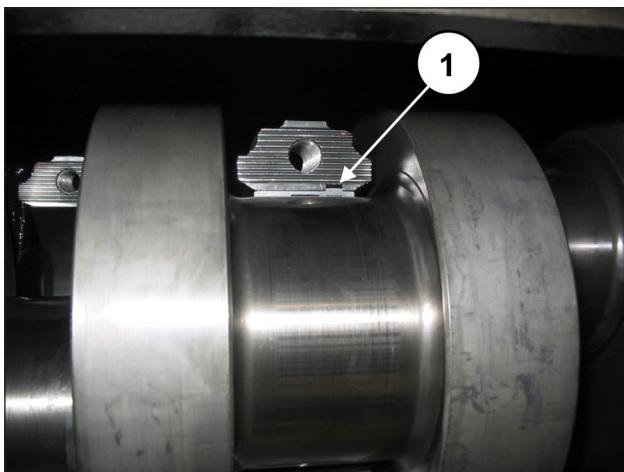

Fig. 57
For proper assembly of the half-bearings, ensure that the reference tab on the half-bearings are positioned in their housing on the half support (pos. ①, Fig. 57).